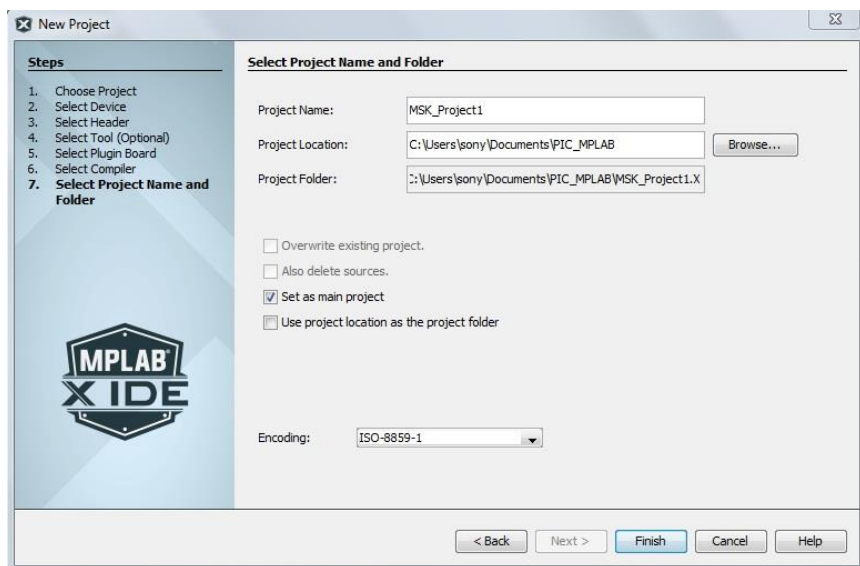

Fig 4.12 New Project – Select Project Name and Folder Window
7. For simulating assembly language programs, under “mpasm” section select “mpasm (v5.82)” and click Next. A “Select Project Name & Folder” window appears as shown in Fig 4.12.